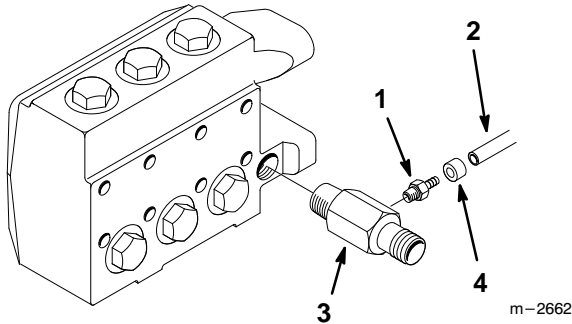

Figure 3
6. Disconnect the valve assembly hose and tube retainer from the brass barbed fitting (Fig 3).
7. Remove the barbed fitting from the straight brass barbed fitting on the inlet side of the pump (Fig 3).
8. Remove the straight brass barbed fitting from the inlet side of the pump (Fig 3).